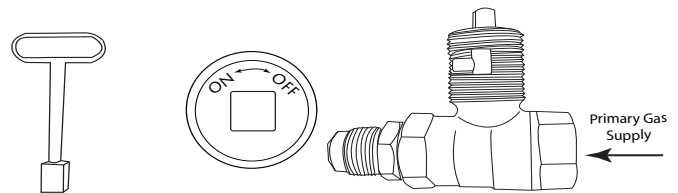

Fig. 19 Key valve components
The key valve contents: (1) key valve, (1) 12-inch key and (1) flange. See Fig. 19. The valve requires a $1\frac{1}{4}$ " round clearance hole in the non-combustible enclosure wall. See the instructions supplied with the key valve for more specific details. **Note:** Be sure to leak test all fittings before operating.